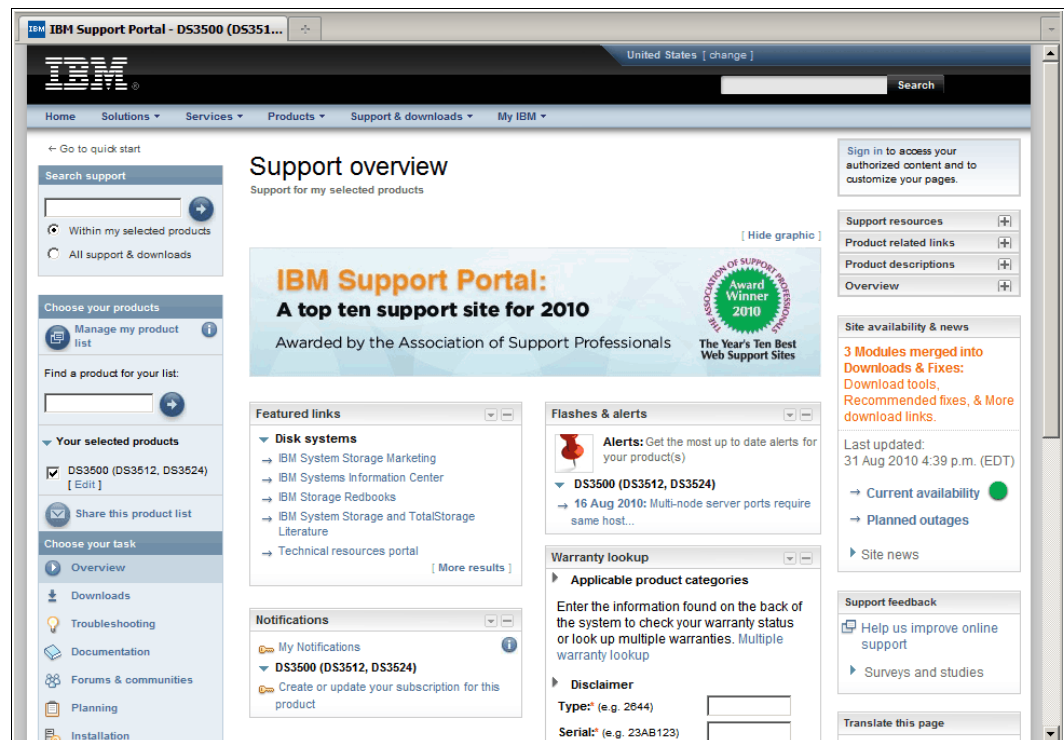

Figure A-16 IBM Support site - Overview
1. From the main support portal window as shown in Figure A-16, click the **My notifications** link in the Stay informed pane on the right side of the support website.